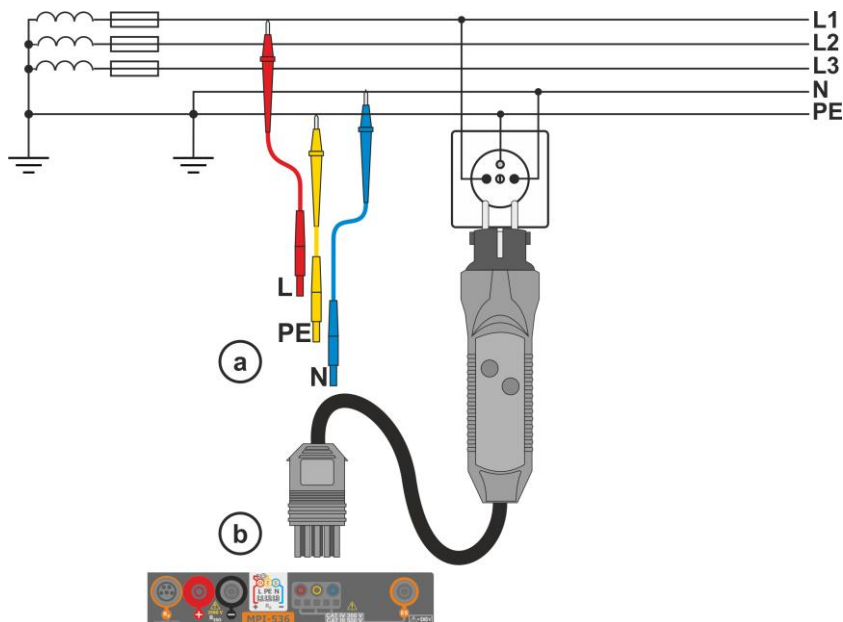

Fig. 3.1 Measurement in L-PE circuit
- ① Connect test leads according to **Fig. 3.1** or **Fig. 3.2**.